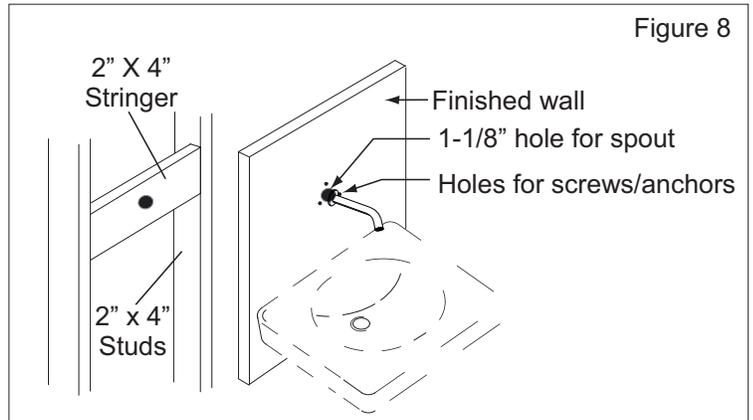
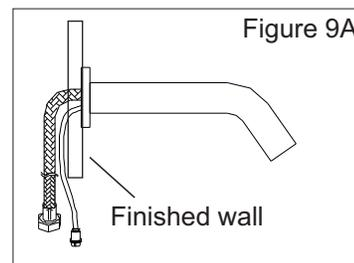

Figure 8
Figure 9A
1. Drill a 1-1/8" (29mm) diameter hole at the spout mounting location (center) for the supply hose and sensor cable to pass through as pictured in Figure 8.
2. Drill three (3) pilot holes 3/16" (5mm) in diameter and insert anchors until flush. Tap lightly with a hammer if needed.
3. Feed the supply hose and sensor cable through the 1-1/8" (29mm) hole in center as pictured in Figure 9A.